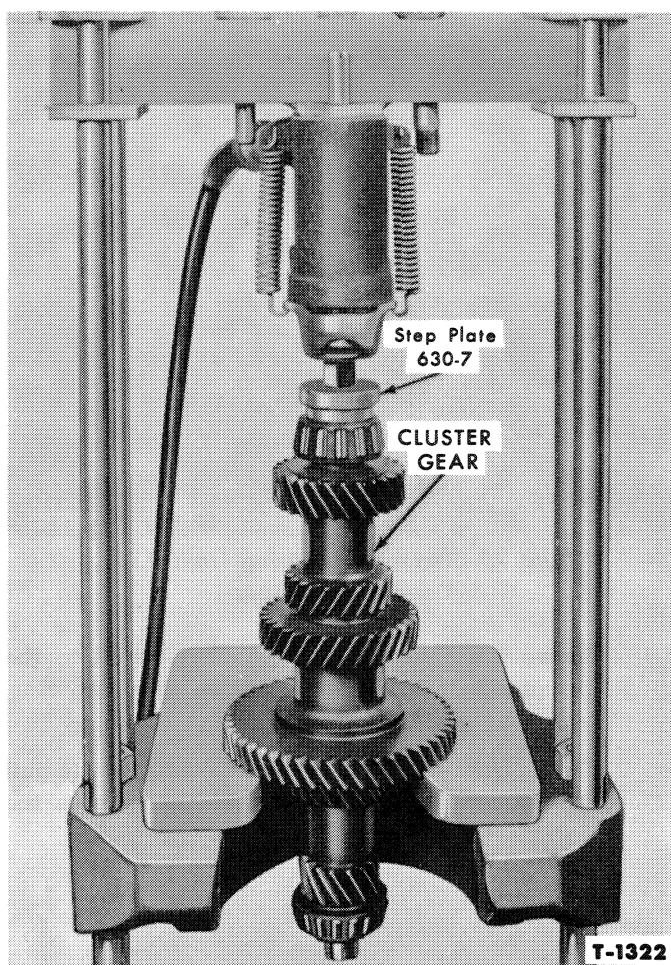

Figure 21—Installing Main Cluster Gear Rear Bearing
2. Press the rear bearing onto the main cluster gear with Step Plate 630-7 as shown in Figure 21. Install the front bearing in the same manner with a 1½" I.D. sleeve.